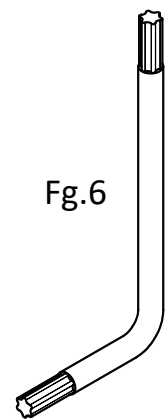
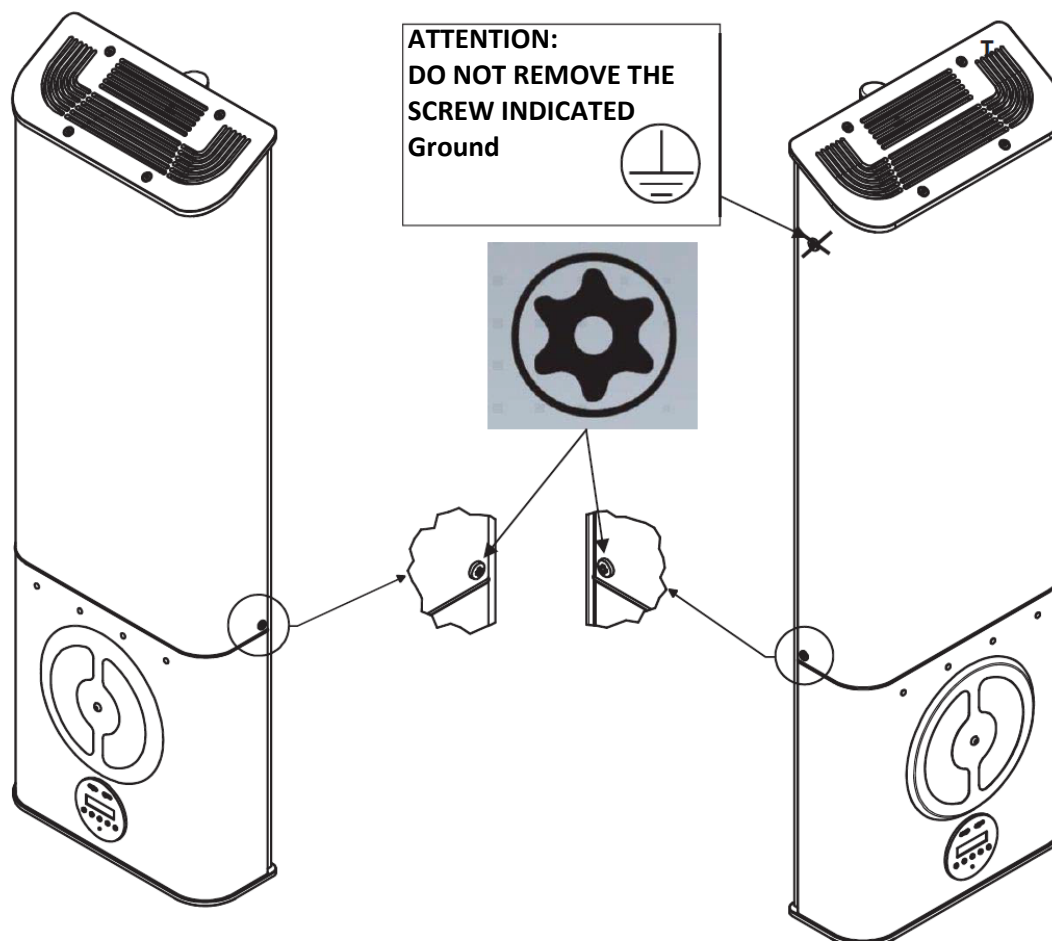

Fig.6
Fig.8
1. Take the supplied L-shaped key ( 3MECL0001) specific for TORX safety screws (Fig.6) and unscrew the front part;
1. Take the supplied L-shaped key ( 3MECL0001) for TORX screws (Fig.6) and unscrew the sides of the casing as shown in Fig.8.